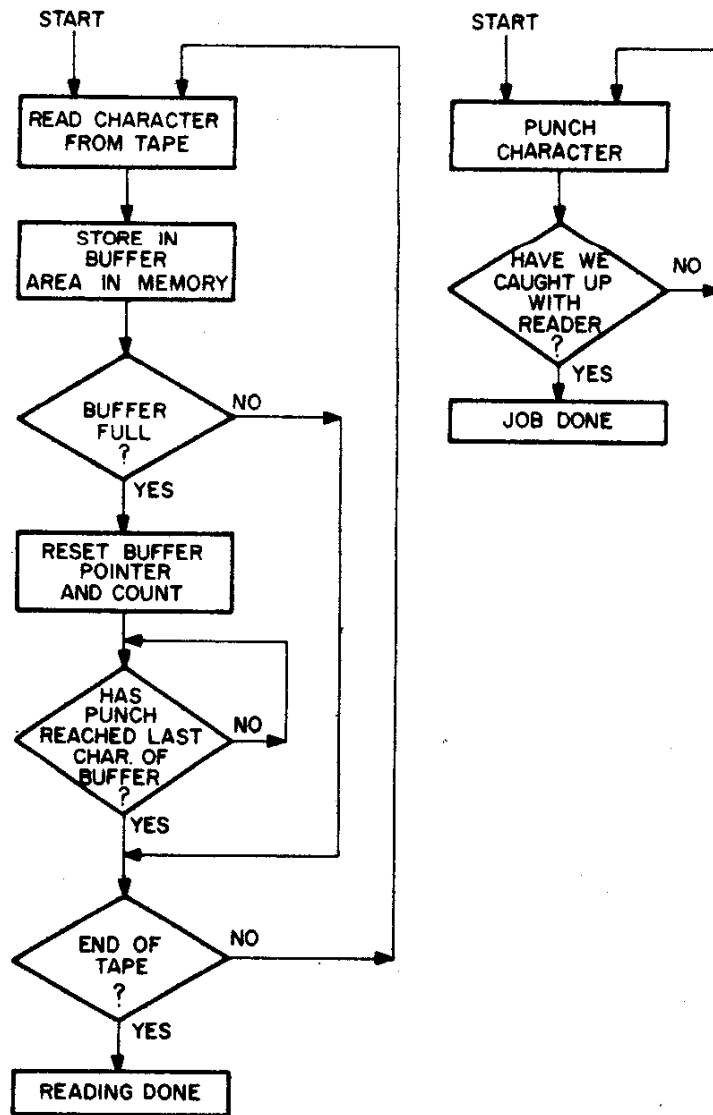

Figure 5-1 Program Interrupt Example
**Coding a Program Interrupt.** Assume, for example, that the operation is reading and punching information using the PC8/E Reader/Punch combination. Between reading and punching, the processor is doing a simple, unrelated program. Once things get started, the procedure that follows is indicated in figure 5-1.